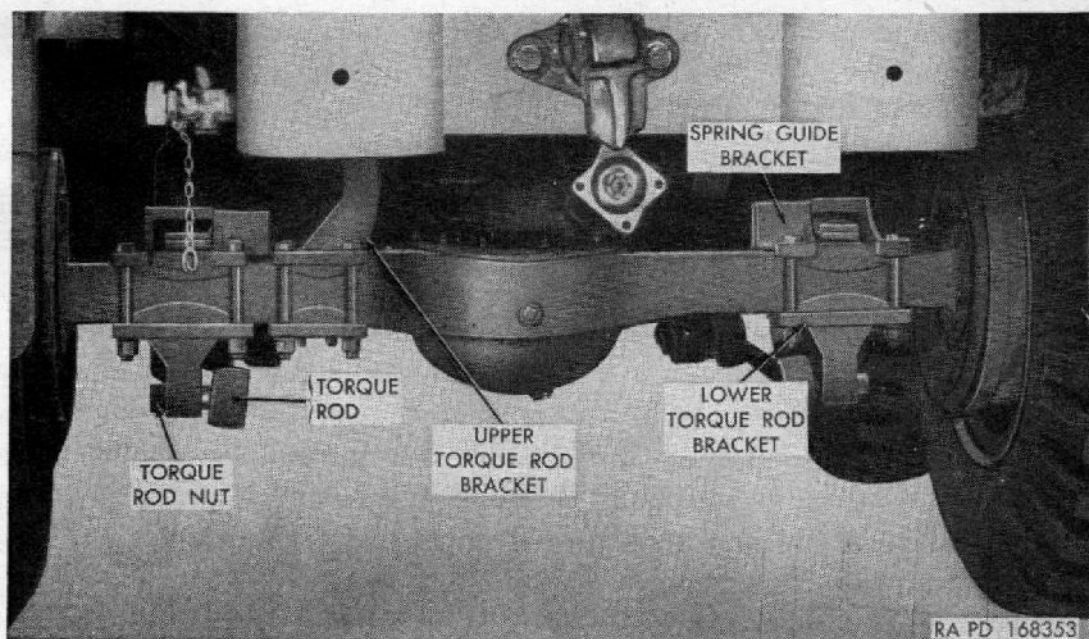

Figure 98. Rear axle installation.
b. REMOVAL (fig. 98).
- (1) *Position truck.* Place truck on a level surface and block front wheels. Place a jack under each cross-shaft-torque-rod bracket and raise rear end of truck. Place a dolly jack under axle to be removed and raise high enough to support unit.
- (2) *Remove wheels.* Remove wheel-stud nuts and remove wheel and tire assembly from each side (par. 183).
- (3) *Disconnect brake lines.* Remove brake-line brackets from axle housing and disconnect brake lines from wheel cylinders at rear of brake flange plates.
- (4) *Disconnect propeller shaft.* Disconnect propeller shaft at differential (see **Warning** par. 140).
- (5) *Disconnect torque rods.* Disconnect torque rods as directed in paragraph 165.
- (6) *Remove axle.* With axle resting on dolly jack, move to front or rear as necessary until spring ends are free of guide brackets on axle housing and withdraw axle assembly from under truck.
c. **INSTALLATION** (fig. 98).
- (1) *Position axle assembly.* Place axle assembly on dolly jack and move axle toward front or rear of truck as necessary, guiding spring ends into guide brackets on axle housing.
- (2) *Connect torque rods.* Align torque-rod ends with holes in torque-rod brackets. Connect torque rods as directed in paragraph 165.
- (3) *Connect propeller shaft.* Connect propeller shaft at differential (par. 140).
- (4) *Connect brake lines.* Connect brake lines to wheel cylinders at rear of brake flange plates. Install cap screws connecting brake-line brackets to axle housing.
- (5) *Bleed brakes.* Bleed rear-wheel brakes (par. 150).
- (6) *Install wheels.* Install wheel and tire assemblies on hubs, install wheel-stud nuts and tighten from 400 to 450 lb-ft torque (par. 183). Remove jack from under truck.
- (7) *Lubricate.* Lubricate axle assembly and propeller-shaft universal joints, as directed in paragraph 56.
- (8) *Record of replacement.* Record the replacement on DA AGO Form 478, MWO and Major Unit Assembly Replacement Record and Organizational Equipment File.